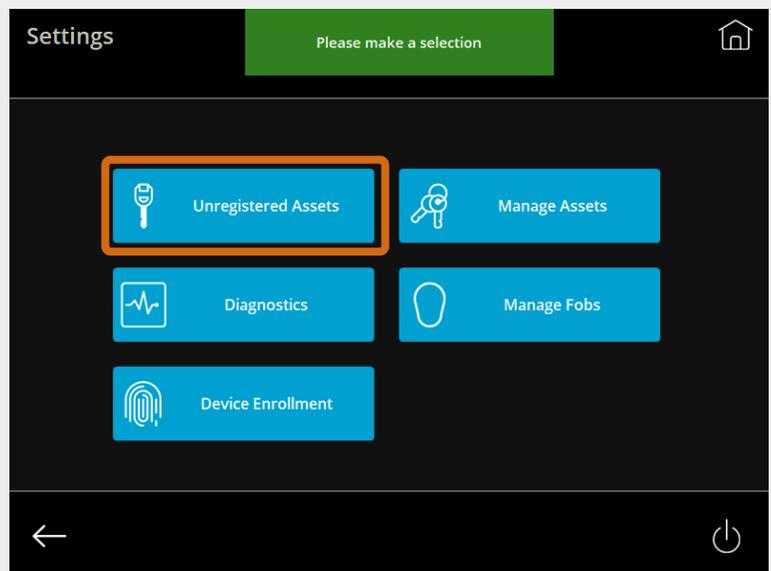

Fig. 20 – (Admin) Settings screen with Unregistered Assets indicated
3. Press **Unregistered Assets**, as shown in Fig. 20, to display a list of all the unregistered assets currently in the cabinet.